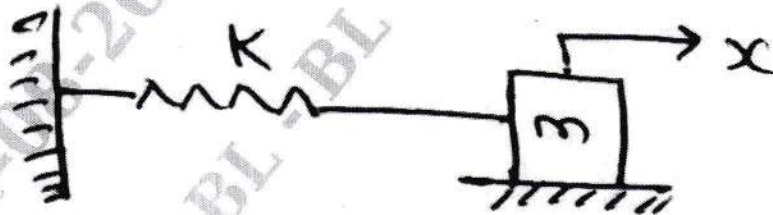

Fig.Q4(b)
b. Find the equation of motion for system shown in Fig.Q4(b) using Hamilton principle.